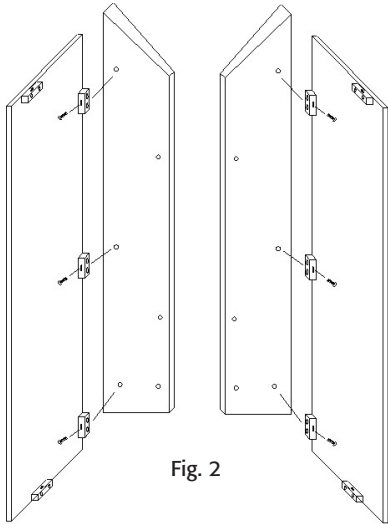

Fig. 2
Step 2: Attach Left Decorative Panel [E] to Side Panel [D] with 3 KD screws [Q]. Attach Right Decorative Panel [F] to Side Panel [D] with 3 KD screws [Q]. See Fig. 2